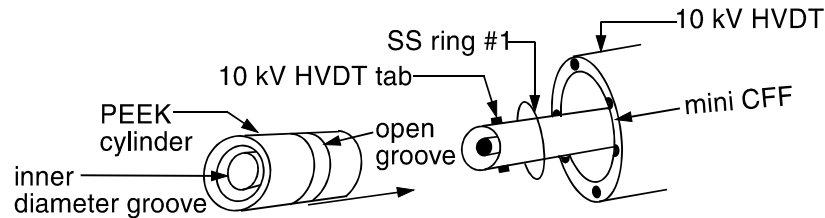

Figure 2-2.
1. Place SS ring #1 on the 10 kV HVFT (Figure 2-2).
2. Install the PEEK cylinder over the 10 kV HVFT with its inner diameter groove facing away from the pump (Figure 2-2).